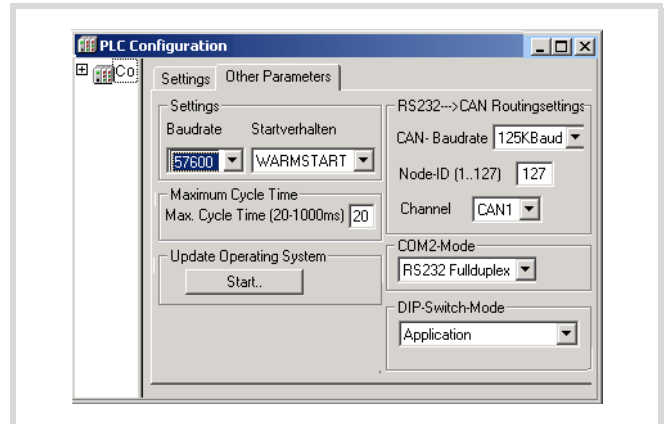

Figure 49: Specifying the CPU's communication settings
You can then change the CPU's parameters (→ figure 49), always making sure that you have the same settings on the PC.
- ▶ In the "Baudrate" list field, select the baud rate (for example 57600 bit/s as shown in figure 49).